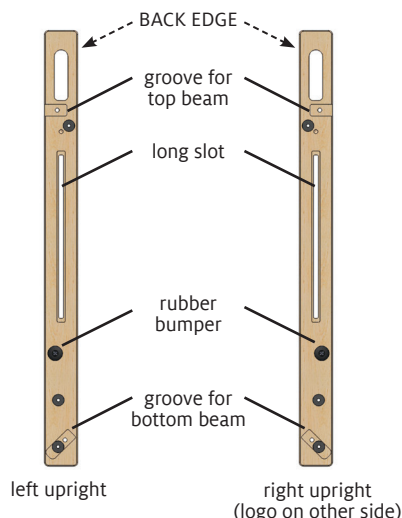

FIGURE 1: ATTACH BUMPERS TO THE UPRIGHTS
**1.** Attach rubber bumpers to the uprights: Insert each #8 x 1/2" Phillips pan head sheet metal screw through the round side of a rubber bumper. Attach the bumpers to the inner sides of the left and right uprights as shown in Figure 1.